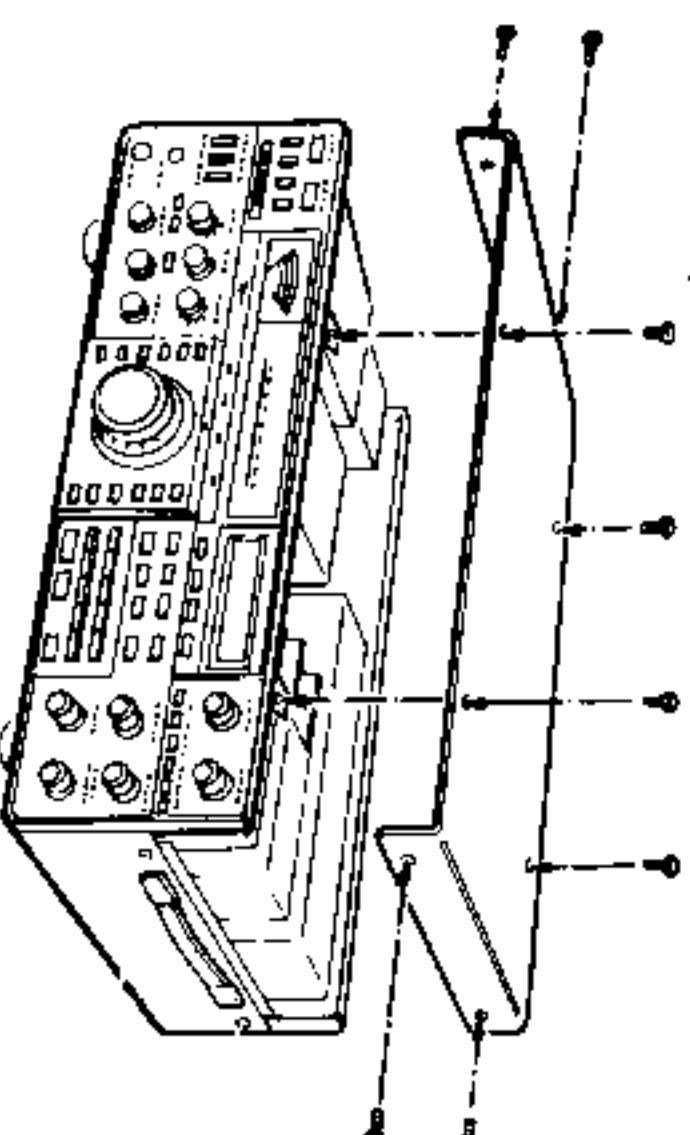

Fig. 3-2
1. Remove the eight screws securing the transceiver's upper cover, using a #2 Phillips head screwdriver, and remove the top cover. (Fig. 3-2)